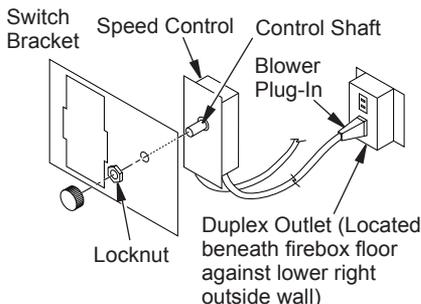

Figure 42 - Attaching Speed Control to Firebox
5. Mount speed control box to switch bracket by placing plastic control shaft forward through round opening in switch bracket (see Figure 42).
5. Mount speed control box against mounting plate provided in lower fireplace cavity by placing plastic control shaft forward through round hole (see Figure 42, page 21).
6. While supporting speed control, secure control shaft with lock nut by pushing and turning lock nut with pliers clockwise until it is tight against mounting plate. Place provided control knob on shaft (see Figure 42, page 21).